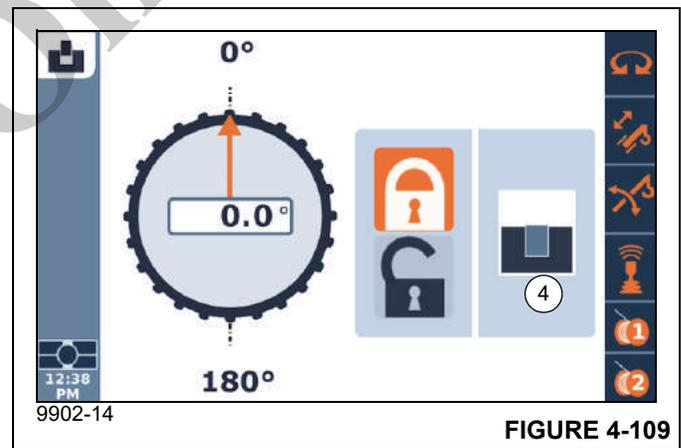

FIGURE 4-109
In Figure 4-109, the Swing Lock Status Indicator (4) shows the swing lock is in the locked position.
When the lock is engaged, the Locked Status Indicator (4, Figure 4-109) will appear.